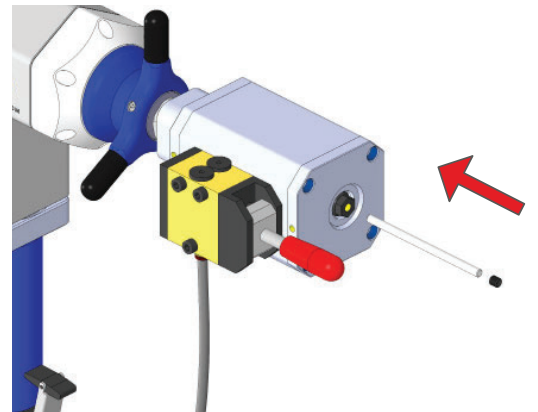

Figure 3-21 Pin installation
7. Finally, insert the pin into the locking device and lock with the first grub screw as shown in Figure 3-21, followed by the second grub screw.